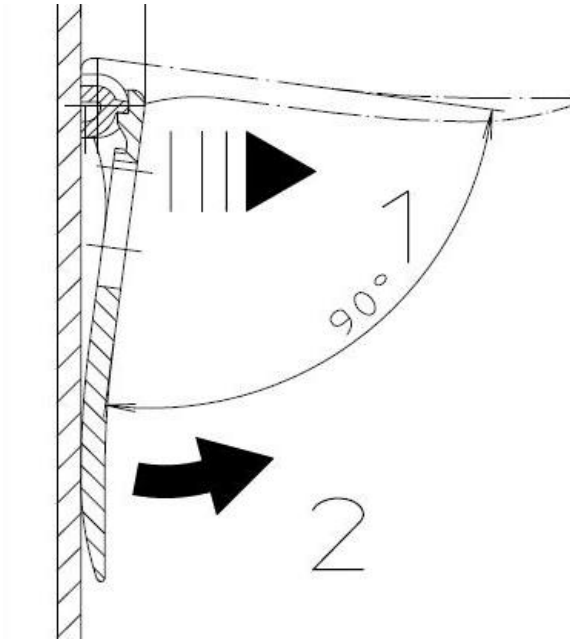

Fig. 3 Using of the base.
- pull the base ear (deactivate the latch) - **Fig. 3**, pos. 1;
- turn the base 90 degrees away from the device - **Fig. 3**, pos. 2;